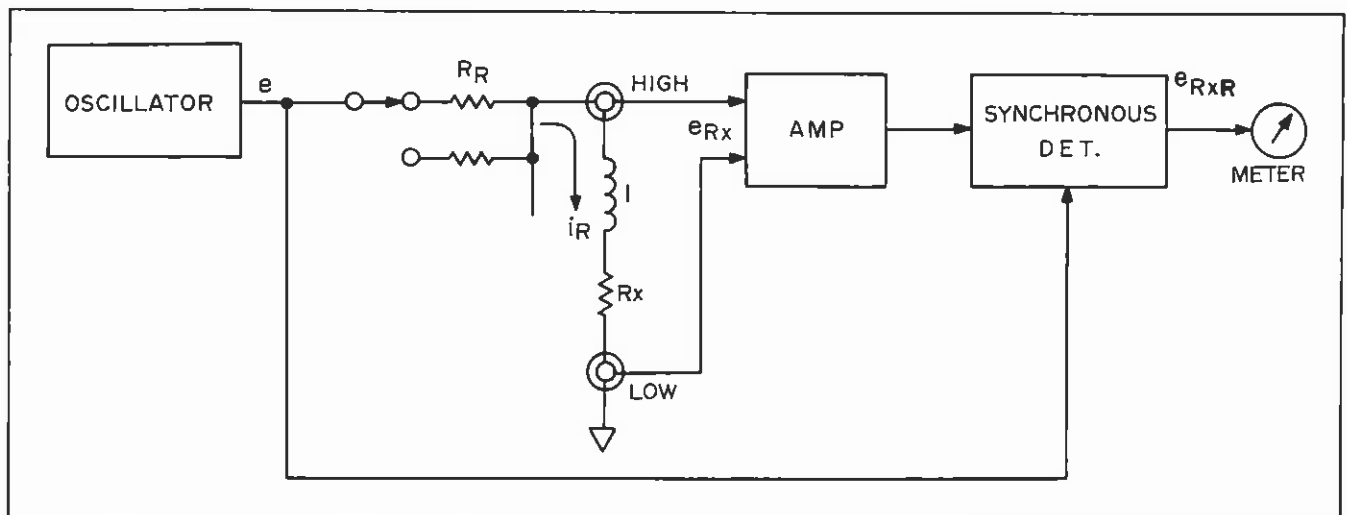

Figure 4-3. Resistance Measurement-Simplified Block Diagram.
4-10. Resistance in the Model 4332A is measured with a 1kHz carrier signal. This is because it is easier to use ac rather than dc in a resistance measuring instrument. Common resistors do not distinguish ac signals from dc signals in a measurement circuit. Refer to Figure 4-3 for block diagram. Basically, resistance measurement (R) is much the same as inductance measurement (L). That is, the RANGE resistance is much larger than the UNKNOWN resistor R_x . Thus, the current i_R which flows through R_x is constant regardless the size of R_x .